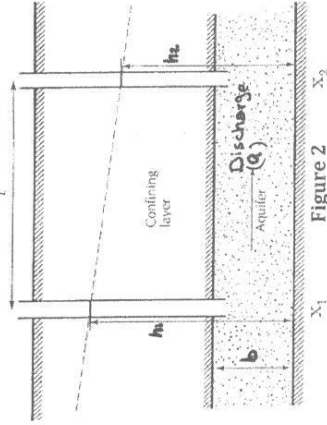

Figure 2
- C. Derive a formula to estimate the steady flow rate (*Q*) of the confined aquifer shown in figure 2 (6 marks)